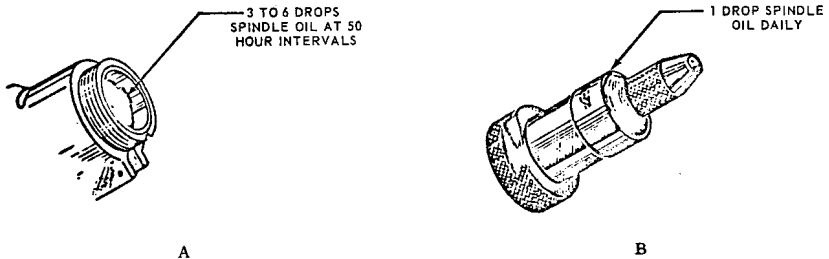

Figure 14. Lubrication Points of Wire Wrap Tool.
- 7.02 At 50 hour intervals, remove the nose assembly and add 3 to 6 drops of spindle oil to the upper clutch block and spindle, as illustrated in Figure 14 A. Replace the nose assembly and run the tool for one or two minutes before starting production.
Apply 1 drop of spindle oil between the sleeve and guide sleeve assembly (Figure 14 B).